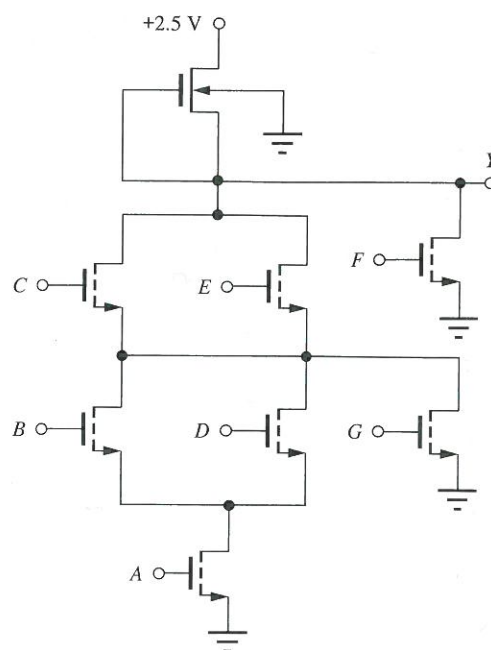

Figure P6.117
- 6.117. What is the logic function for the gate in Fig. P6.117? What are the W/L ratios of the transistors that form the gate if the gate is to consume twice as much power as the reference inverter in Fig. 6.29(d)?
- 6.126. What are the W/L ratios of the transistors in the gate in Fig. P6.117 if the gate is to consume three times as much power as the reference inverter in Fig. 6.29(d)?